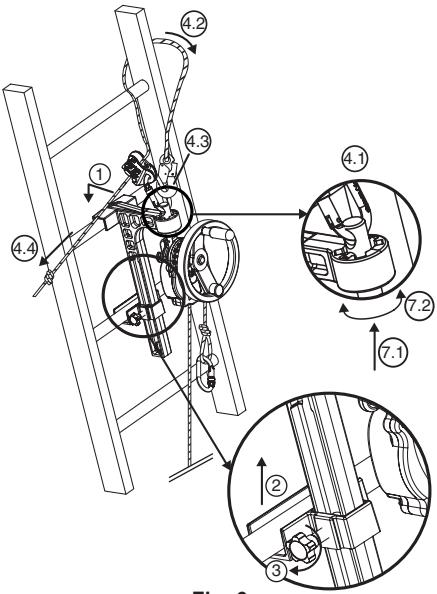

Fig. 6
6.3.2. Derope™ UP B descender (Fig.6)
1. Place the large locking bracket on the ladder bar in the position chosen to carry out the rescue operation above the person to be evacuated (Fig.6, 1).
2. Push up the locking slide at the ladder bar immediately below the bar receiving the large bracket (Fig.6, 2).
3. Tighten the locking pin securing the slide using the clamping knob located on the side of the bracket (Fig.6, 3).
- Secure the connector of the adjustment device LCM 05 in the hole at the top of the fastening pin (Fig.6, 4.1).
- Run the belay lanyard around the ladder bar located above the bracket, going around one of the ladder uprights (Fig.6, 4.2).
- Connect the belay lanyard connector in the connector of the adjustment device LCM 05 (Fig.6, 4.3).
- Tension the belay lanyard by pulling on the free strand (Fig.6, 4.4).
7. Align the Derope™ descender as may be required, modifying the position of the fastening pin in the indexing device (Fig.6, 7.1 – 7.2).